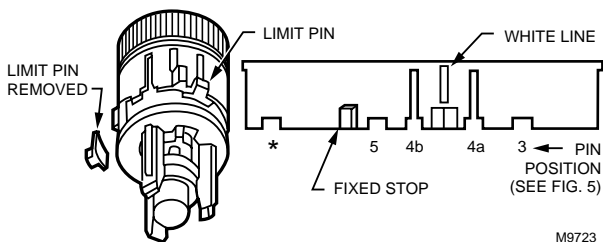

Fig. 12. Range limit stops.
- Insert the limit pin (red) to provide desired temperature limits (see Fig. 12).